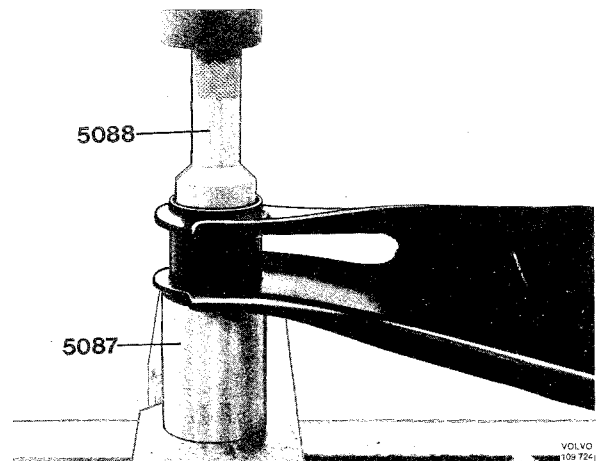

Fig. 7-13. Pressing out front bushing
5. Press the trailing arm front bushing out with tools 999 5088 and 999 5087, see Fig. 7-13.